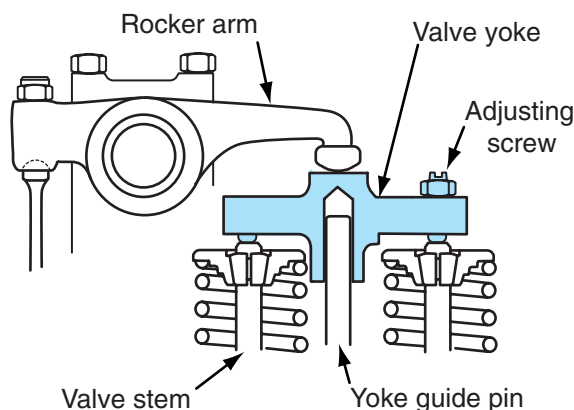

Figure 5-14 Valve bridge/yoke assembly.
4. If the engine is equipped with valve bridges or yokes (**Figure 5-14**) that require adjustment, this procedure should be performed before the valve adjustment. To adjust a valve yoke, back off the rocker arm then loosen the yoke adjusting screw locknut and back off the yoke adjusting screw. Using finger pressure on the rocker arm (or yoke), load the pallet end (opposite to the adjusting